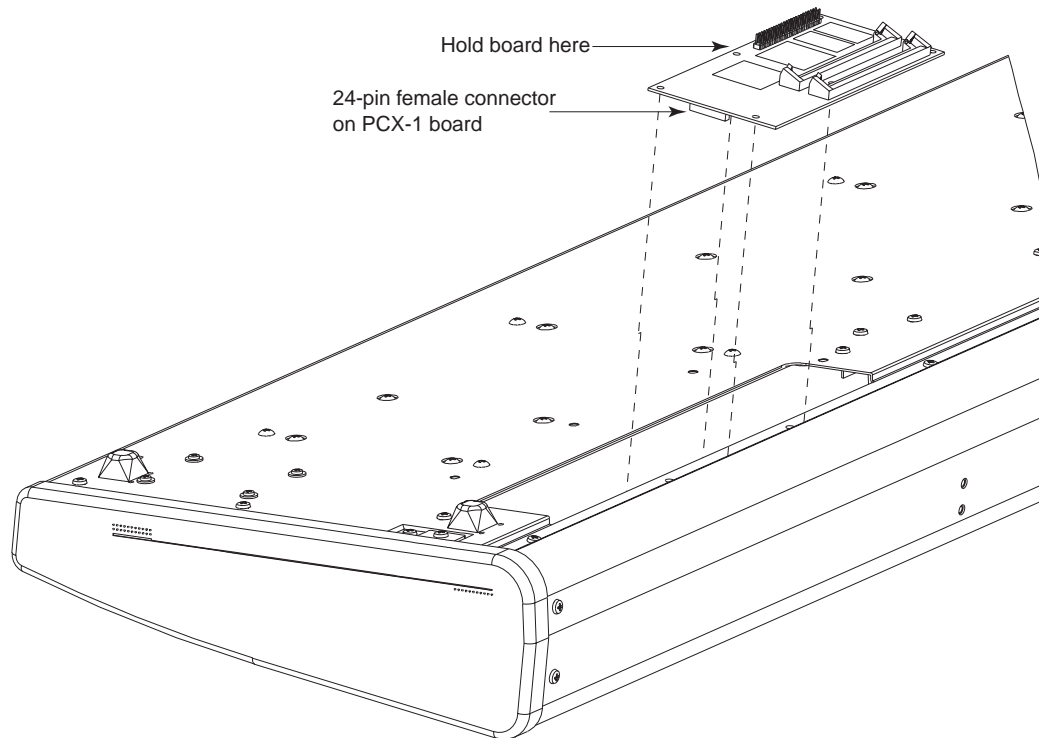

Figure 3 **Inserting the PCX-1 board**
3. Grasp the board as shown in Figure 3 (page 12). The connector (J805) should be at the left side of the board, and facing away from you. Holding the board vertically, insert it through the access opening, then rotate it until it's horizontal.